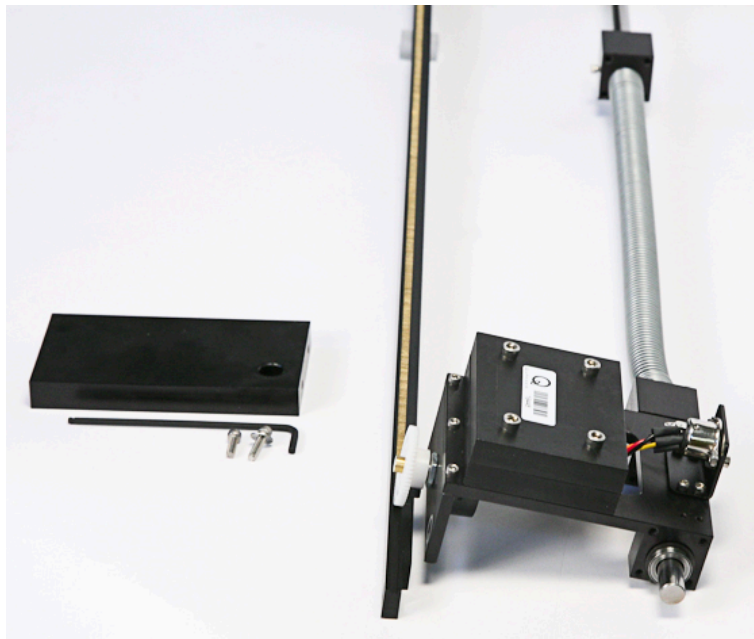

Figure 4.2: Slip LFJC onto the IP02 shaft
3. Then slip both linear spring and the LFJC-E cart onto the IP02 stainless steel shaft, as shown in Figure 4.2. Finally once the LFJC-E system can slide smoothly on the guide rail, you can then mount the rack end plate back and tighten the two set screws.